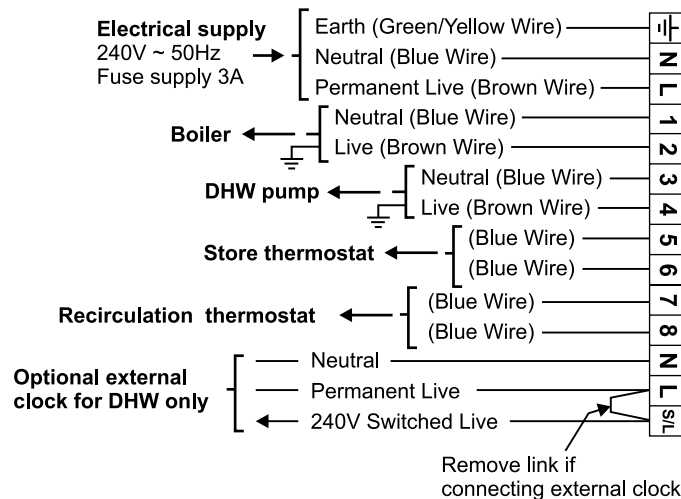

Fig. 4 - CombiMax terminal block
4.5 CONNECT THE MAINS SUPPLY - Fig. 4
Connect the electrical mains supply to the CombiMax and boiler as described in the CombiMax Installation instructions. Also refer to Fig. 4.